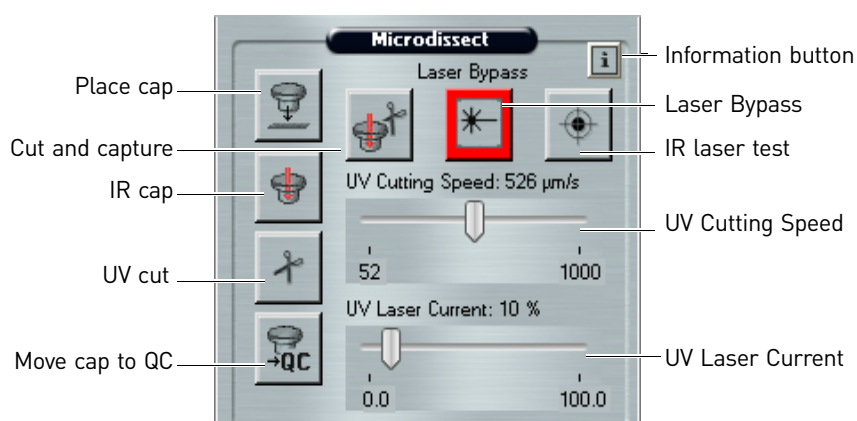

Figure 50 The Microdissect tools pane
This chapter explains how to microdissect cells and tissue, inspect caps and slides after microdissection, and unload the caps and slides. It also tells you how to locate both the IR Capture Laser and the UV Cutting Laser, and how to set parameters for IR capture and for UV cutting. It covers setting the order and selecting properties for cut and capture, as well as viewing and updating cap information. It explains how and when to use the laser bypass feature. You access all of these features from the Microdissect tools pane (see Figure 50).
1. Click the **Cut and Capture** button (see Figure 50 on page 67).